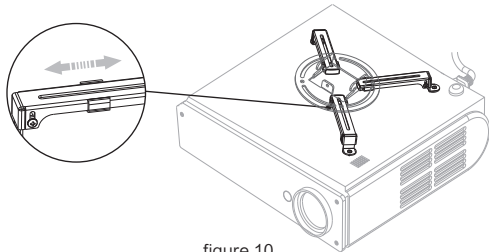

figure 10
2. If there are 3 holes, the installation arms need to be taken apart from installation bracket firstly. Connect 3 installation arms to the projector, and then connect the installation arms to the installation base. However, the installation base needs to be the center of projector. Figure 10.